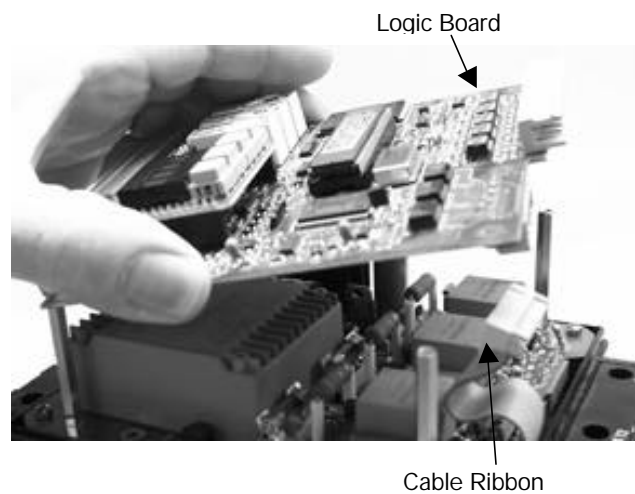

Figure 4. Removing the Logic Board.
3. Remove the four corner screws holding the Logic Board to the stand-offs below the Logic Board. Lift the Logic Board straight up to remove it, as illustrated in Figure 4.